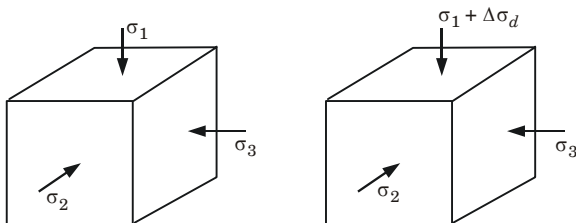

Fig. 4.22.1. Pore pressure under deviator stress.
1. Let us consider the element of a saturated soil which is in equilibrium under three principal stresses σ_1 , σ_2 and σ_3 , are shown in Fig. 4.22.1.